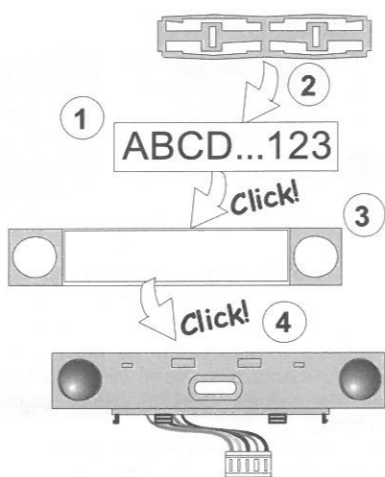

Figure 3: Insertion of a label into a control segment
- Connect the segment wires to the internal connector of the module (7).
- When batteries are inserted, the yellow backlit activation button (3) starts to light permanently which indicates that the module has not been enrolled to the system yet.
- Press the backlit activation button (3) – the module is thus enrolled and the yellow LED indicator goes off (this can take a few sec). An enrollment signal can also be sent by inserting the batteries.
- When you have completed installation, insert descriptive labels behind the segment transparent covers and close them, see figure 3. Label printing is a part of the F-Link software (**Devices** window, at the module position – **Internal settings**).